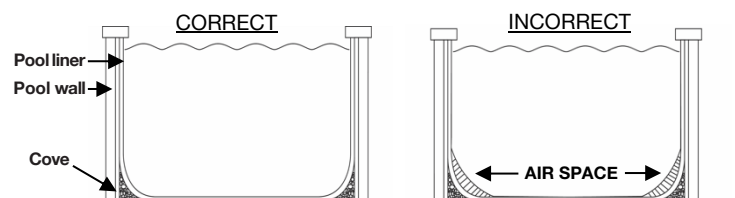

FIGURE 1
11. **For Overlap Liner Installation (see Figure 1)**— Lift sides and drape them over the pool wall. Plastic coping (not included with all pool kits) or steel track (not included with all pool kits) are used to secure liner to the pool wall. Allow the liner to hang loosely on the wall, do not pull it tight at this point. The liner seams between the floor and wall must be on the cove (sand or styrofoam). Fill a water bag and set it on one end of the pool; pull on the opposing end to stretch the floor across the bottom of pool area. It may fall short due to being folded up in the box. As the pool fills, the